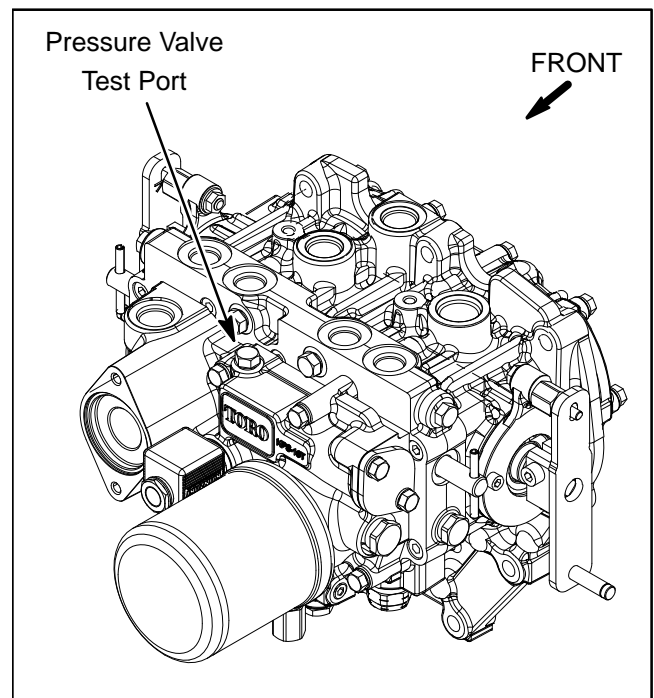

Figure 36
4. Thoroughly clean transmission area surrounding pressure valve test port (Fig. 36).
5. Remove plug from pressure valve test port (Fig. 36). Connect hydraulic pressure gauge (1000 PSI / 70 bar) with an attached hydraulic hose to the test port.